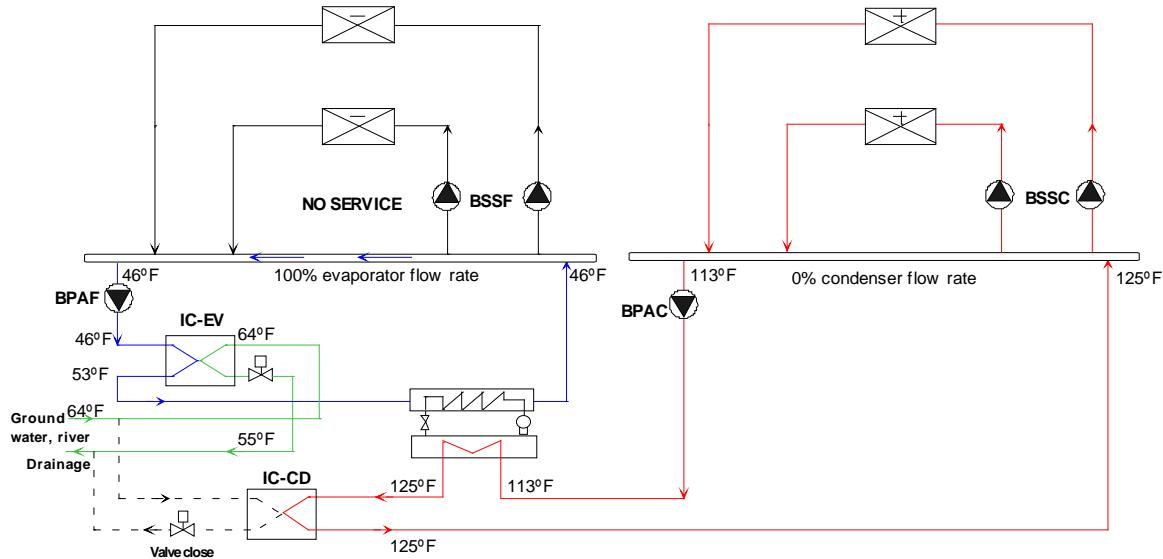

Figure 32. Loop-to-Loop Heat-Pump Heating Only
2. Heating only (Figure 32) – In this mode, the chiller acts the same as a boiler and tracks the demand of the hot-water loop. Heat is made up from the well-water loop to the chilled-water loop via heat-exchanger IC-EV. The heat-exchanger is controlled to maintain a leaving chilled-water temperature setpoint of approximately 46°F (leaving the heat-exchanger, entering the chiller condenser).